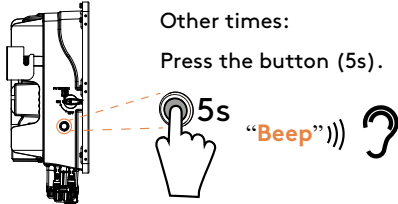

Figure 96.
5. Turn on the inverter. For the first startup, refer to the Startup Guide to complete Quick Setup in the App and tap the Power-on icon to turn on the inverter. For any non-first-time startup, press and hold the ON/OFF button on the side of the inverter for five seconds to turn it on. Refer to **Figure 96 on p70**.